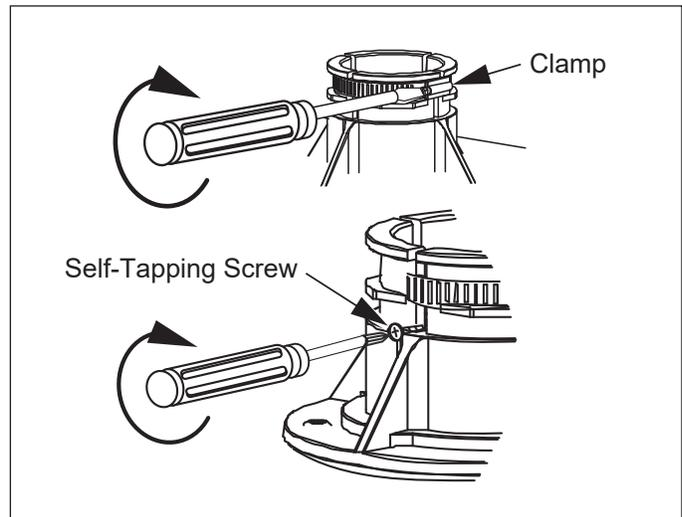

Figure 15 - Secure Venting
- 2 Use a Phillips screwdriver to tighten the clamps (Figure 15).
- 3 Use the specified self-tapping screws to secure the venting to the intake and exhaust ports (Figure 15).